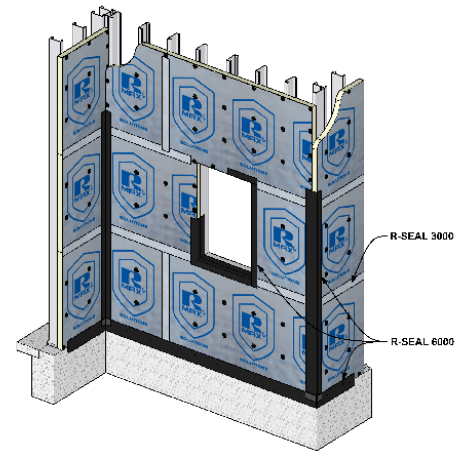

Figure 1
- A change in wall plane is a deliberate change in direction or out of plane framing or substrates. DO NOT span the insulation board across materials that are out of plane more than 1/4". For changes in direction (corners, surface offsets, etc.) the boards should snugly fit in an overlap. **Reference Figure 1 and 7.**